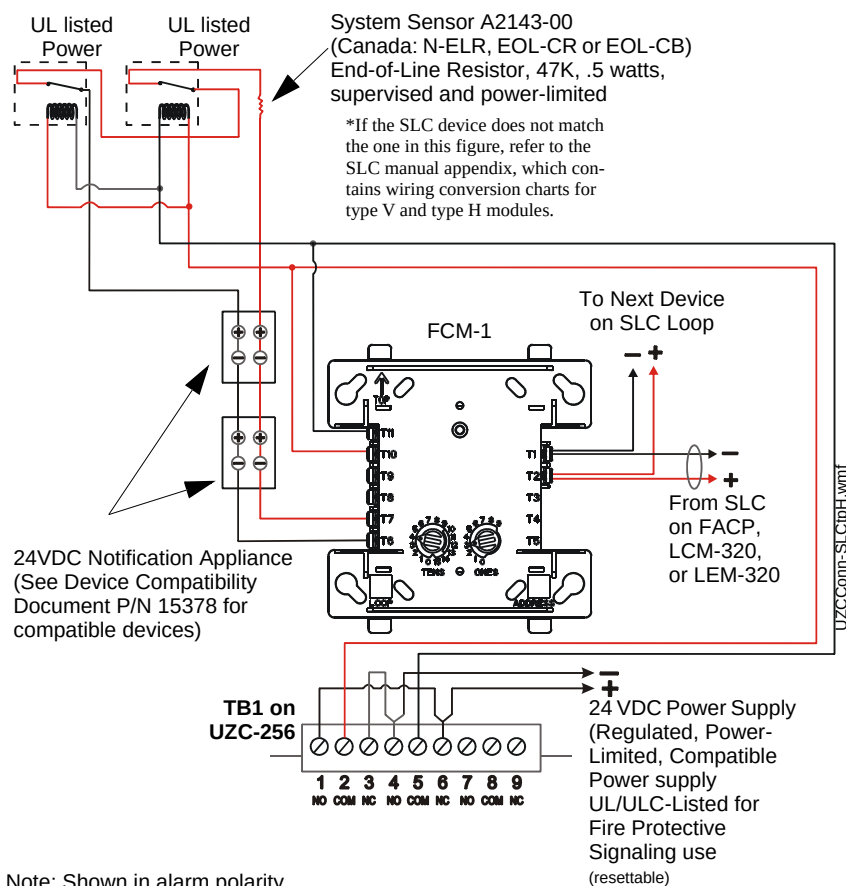

Figure 3.5 Typical Connections to SLC Control Module
4. For connection of Notification Appliance power to and from the UZC-256, refer to “Power/NAC Configurations” on page 15 and, if using an AIM-200, refer to Figure 3.5 on page 12.
Connect notification appliance power devices as shown in Figure 3.5 on page 12.
4. Connect notification appliance power devices as shown in Figure 3.5, “Typical Connections to SLC Control Module” on page 12 or as detailed in “Wiring 12 Zone-Coded NACs” on page 21 or “Wiring 20 Zone-Coded NACs” on page 21.
For typical connections between the UZC-256 and NACs using a SLC control module, refer to Figure 3.5, “Typical Connections to SLC Control Module” on page 12.